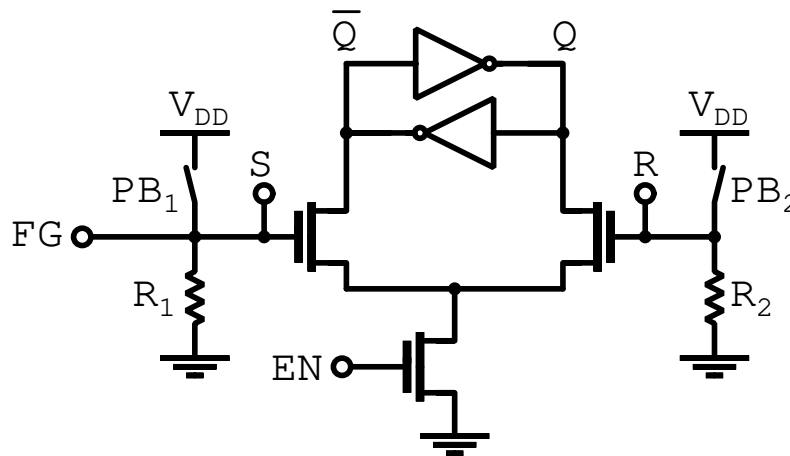

Figure 21: Experimental setup
2. Explain the purpose of the resistors added under the push buttons in Figure 21.
1. Connect the circuit shown in Figure 21. Make sure that the bulks, voltage supply, and voltage ground are properly connected. Use resistors of $R = 1 \text{ k}\Omega$.